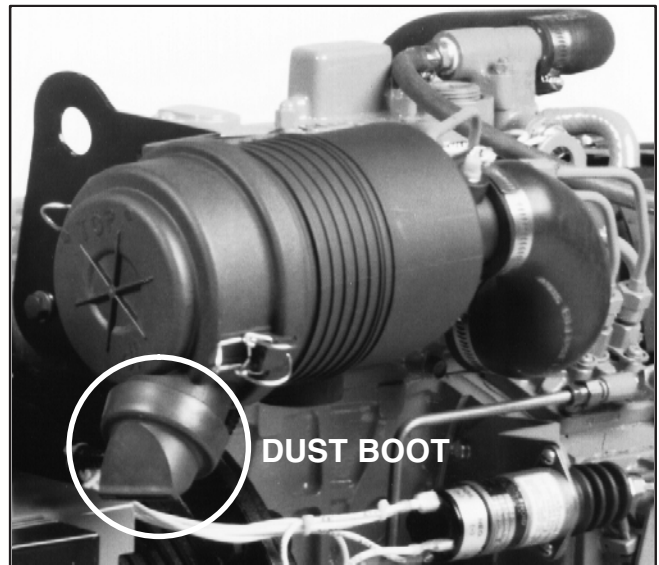

FIGURE 7. AIR CLEANER ASSEMBLY
1. Unclip the cover (Figure 7) and pull the filter element out gently to reduce the amount of dust dislodged. Gently twist or move the element side to side to disengage the seal and pull it out.